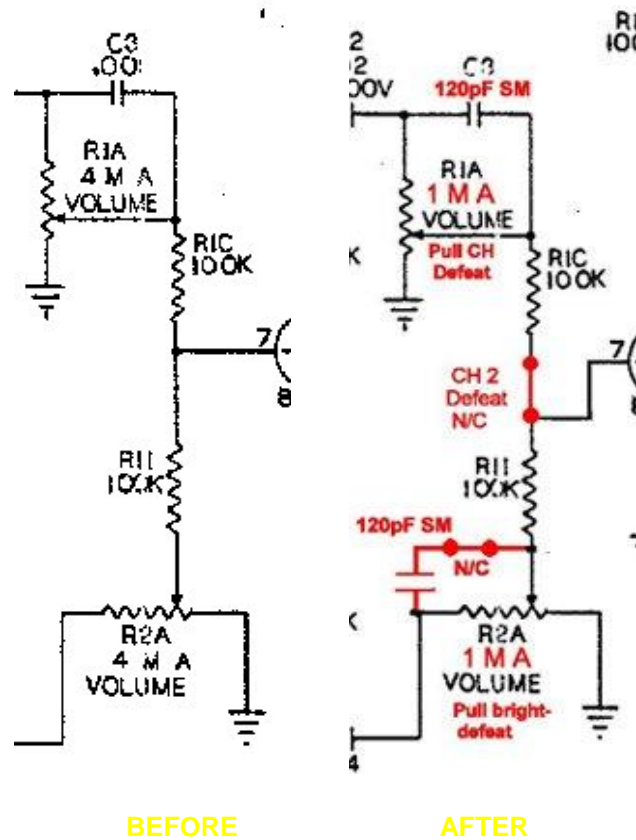

FIGURE 2 - Volume pots, bright caps, and channel defeat.
J.C. recommends changing the 4M-A volume pots for 1M-A pots to improve the tone. This increases the "immediacy" of the amp and makes it less squasy. I noticed a big change after doing this simple change. I used push/pull 1M-A pots for both channel I and II (more on those later). See figure 2.
The stock YBA-1 circuit uses a 0.001uF (1000pF) cap on channel II to make the amp brighter at lower volume settings. The result is a VERY BRIGHT tone which was overkill for my ears. I changed the channel II cap to a 120pF Silver Mica. For channel one I installed a 120pF which is switched in with the push/pull volume pot (ch1 did not originally have a bright cap). See figure 2.